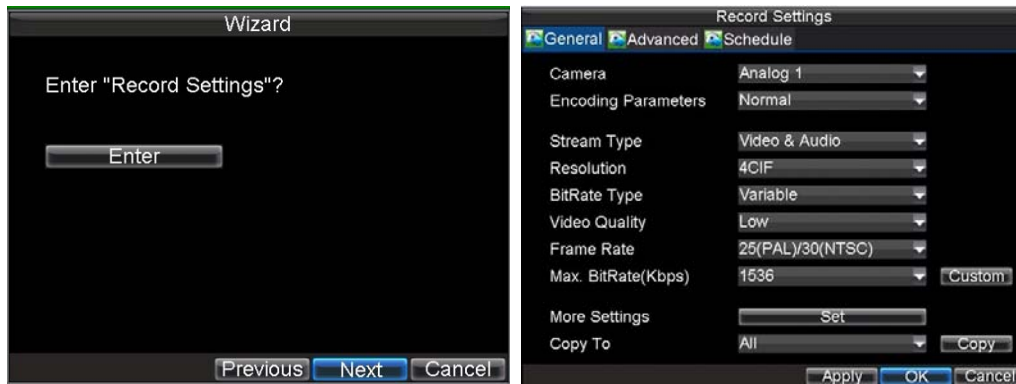

Figure 5. Record Settings
9. Click *Next* button to enter the **Record Settings** dialogue box, as shown in Figure 5.